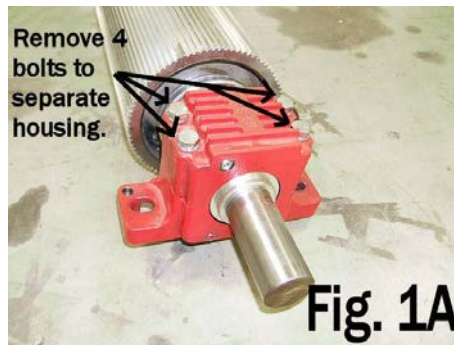

Fig. 1A
1. To disassemble housing, in order to remove bearing, remove the 4 bolts on housing as seen in Fig. 1A. Tap on feet of housing with a soft mallet to separate the two halves.